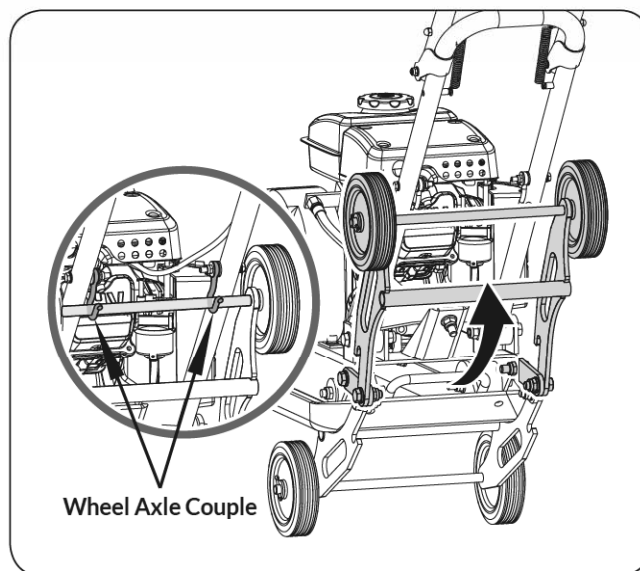

Figure 4b
2. Before compacting, fold up the Wheel Kit. (See **Figure 4b**)